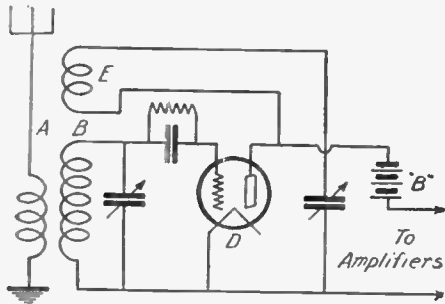

FIG. 1
In Fig. 1 is shown a three-circuit tuner diagram. The coil A, which is connected in series with the antenna and ground, transfers its energy to the coil B, which is the secondary shunted by a variable condenser. This condenser is used for tuning the secondary circuit. The rectification of the high frequency radio current is brought about through the asymmetrical flow of current in the plate-filament circuit. The grid of the tube impresses the modulated radio frequency signals upon the space current, which is direct current. This modulated direct current passes first through E, which by magnetic induction passes some of it back into B. Thus this process of feed-back produces a further amplifica-
**S**OME years ago, while experimenting with a crystal-vacuum tube combination, we fell upon a circuit shown in Fig. 1, in which a crystal detector is connected right into the grid circuit. The writer at the time thought that this was original, but later on found that the principle was known, having been previously described in some scientific papers.
The final circuit evolved is the one shown in Fig. 1. The coil L-1 is a 3-inch tube, wound with about 55 turns of No. 20 S. C. wire, while the condenser C should have a capacity of 0.0005 mf. The crystal A may be any good crystal, although the writer in his experiments has found that a fixed carborundum crystal is the best, because it is the most stable. Any good vacuum tube may be used.